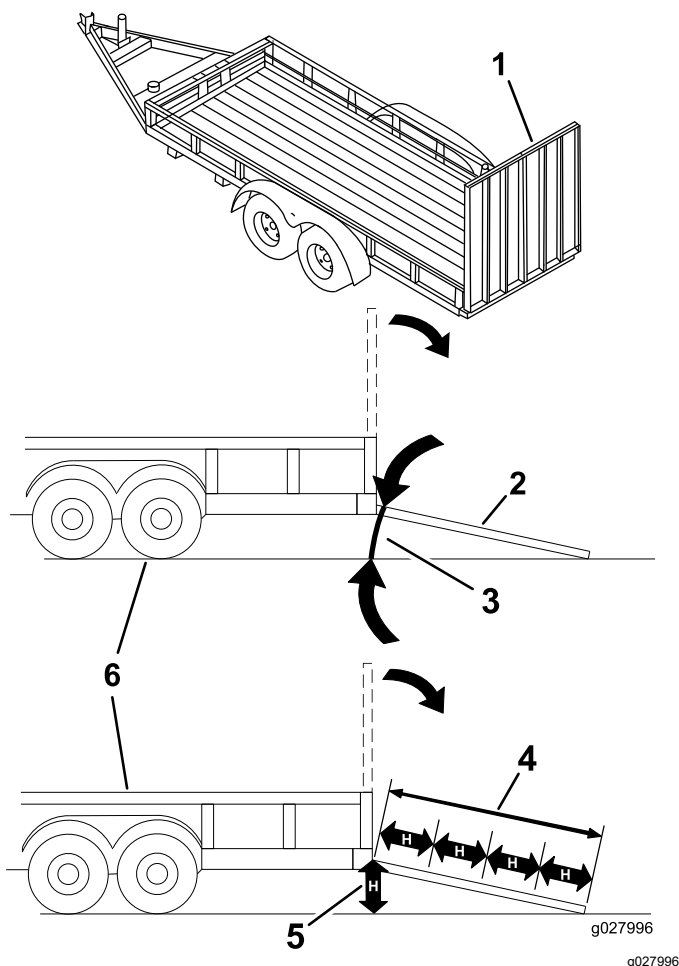

Figure 28
Loading a machine onto a trailer or truck increases the possibility of tip-over and could cause serious injury or death (Figure 28).
3. Lower the ramp, ensuring that the angle between the ramp and the ground does not exceed 15 degrees (Figure 28).
1. Lower the ramp, ensuring that the angle between the ramp and the ground does not exceed 15 degrees (Figure 28).